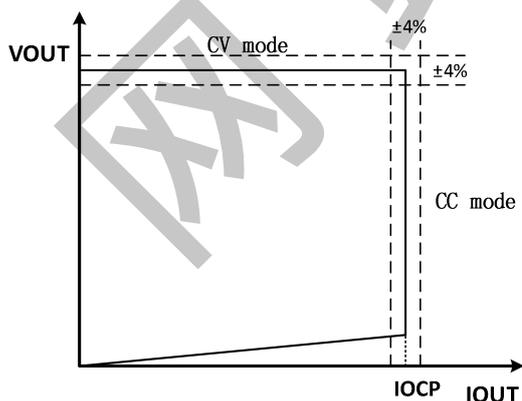

Fig.1. Typical CC/CV Curve
Proprietary Constant Voltage (CV) and Constant Current (CC) control is integrated as shown in the Fig.1. In CC control, the current and output power setting can be adjusted externally by the sense resistor R_{CS} at CS pin. In CV control, multi-mode operations are utilized to achieve high performance and high efficiency.